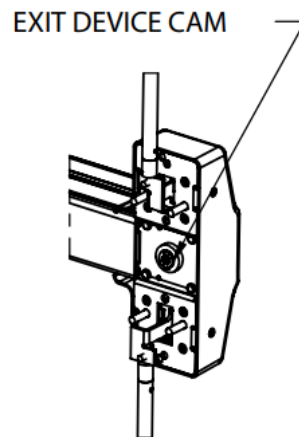

FIGURE 10-2
- C. If using outside trim, make sure the cross-hatched trim spindle has mated with the cam on the exit device (see Figure 10-2).